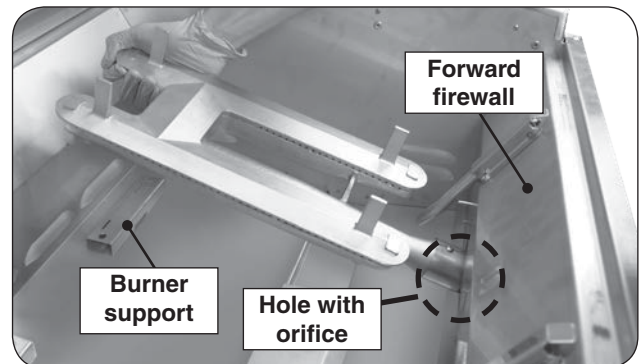

Fig. 35-3 Remove burners
3. Carefully lift the burner from the burner support and out from the hole in the forward fire wall. See Fig. 35-3.